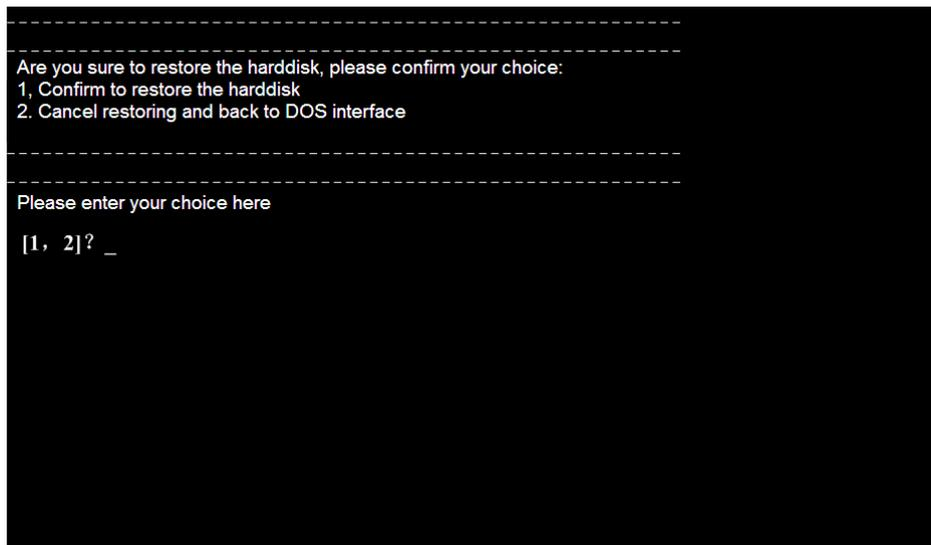

Fig. 4-4 DOS startup interface-2
- 4) Enter "1", and interface shown as Fig. 4-4 will pop up.